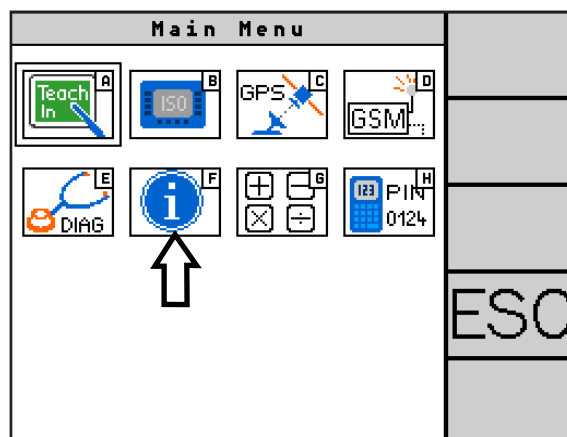
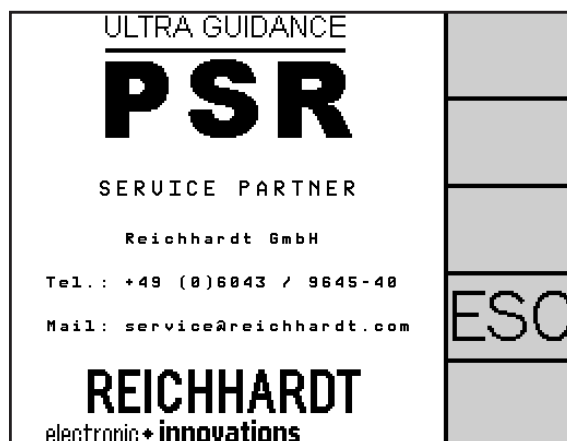

Fig. 124: Call up system information
Fig. 125: Service partner
Select the “i” symbol (F) in the main menu (see Fig. 124) to access the system information and display the service partner (see Fig. 125).